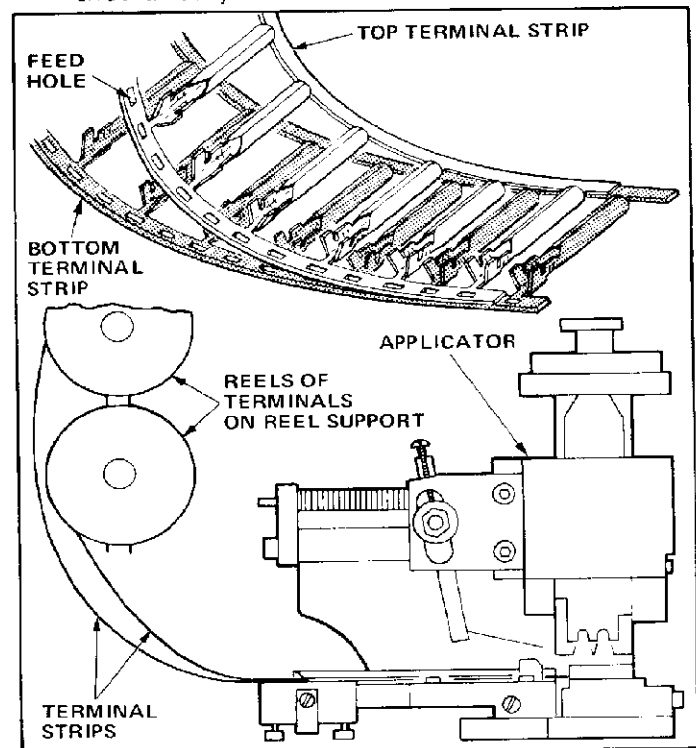

FIGURE 4
4. With two reels of terminals installed on reel support, feed terminal strips into applicator between strip guides. One terminal strip should lay directly on top of the other, with the terminals of the top strip positioned over the spaces between the terminals of the bottom strip (the first terminal of the top strip must be over the space between the first and second terminals of the bottom strip). (See Figure 4). The feed holes of the front carrier strips must be aligned so both terminal strips can be fed at the same time.